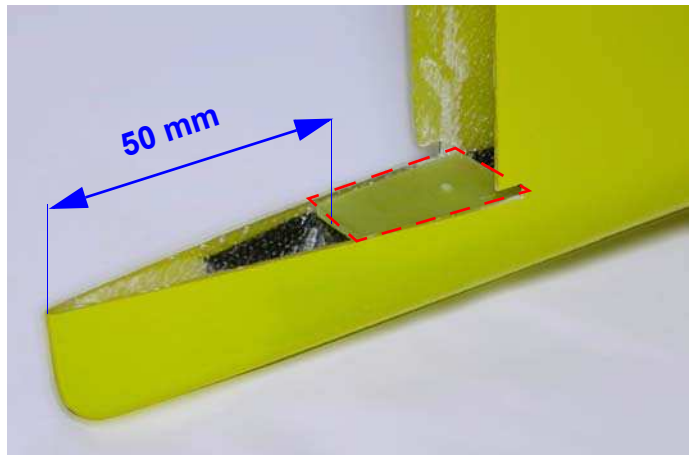

Fig.9: Glue the support at the distance shown.
- Using some cyano, glue the lower support "SINF" exactly at a distance of **50 mm** from the end of the tail (see figure 9);